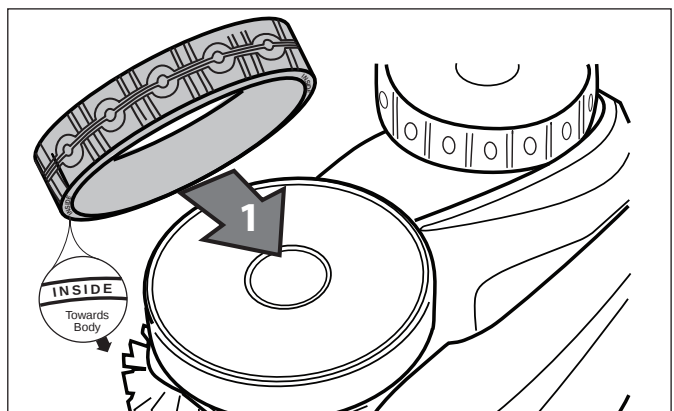

Figure 33. Tire Replacement Orientation
3. To replace the tire, position the tire on the wheel making sure to orient the tire so that the word **INSIDE** is toward the body of the cleaner (Figure 33).